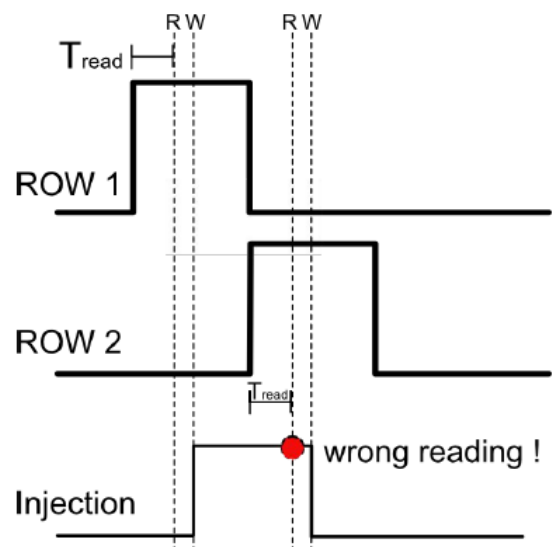

Figure 1: The read occurs before the injection signal turns off, resulting in an incorrect reading
- Figure 1 shows a situation, where the host device outputs a selection signal on row 1, then turns it off, and after a break turns on the activation signal for row 2. You can see, that the uniMatrix injection signal is delayed by the configured Tread time and not active when row 2 is read. In this case, there is a well-defined separation between read and write events and MIDI input and output possible simultaneously.